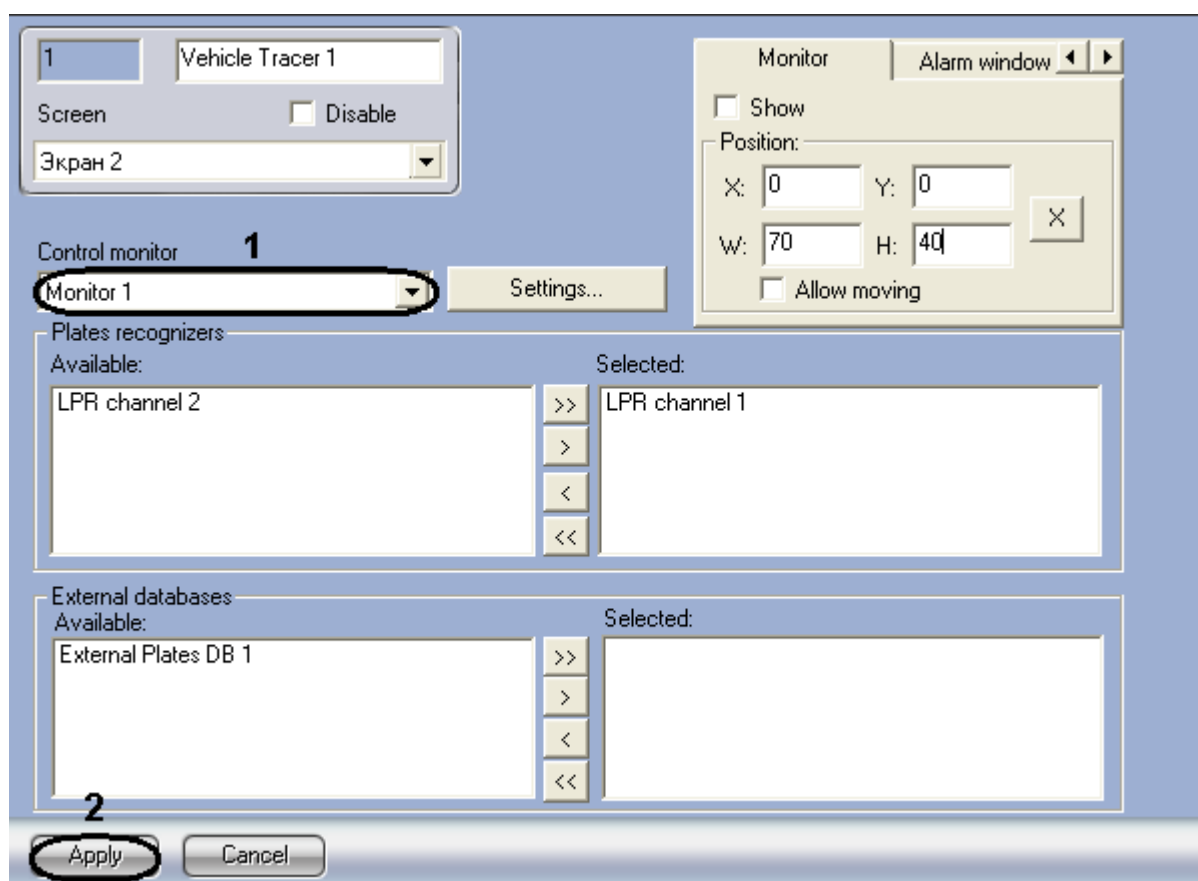

Fig. 7.9—13 Selecting the Monitor object for playing back the video archive
1. Go to the Vehicle tracer settings panel (Fig. 7.9—13).
2. From the «Control monitor» list (Fig. 7.9—13, 1) select the Monitor object, with the help of which video archive is required to be played back from the plate's recognition camera.
3. Click «Apply» (Fig. 7.9—13, 2).